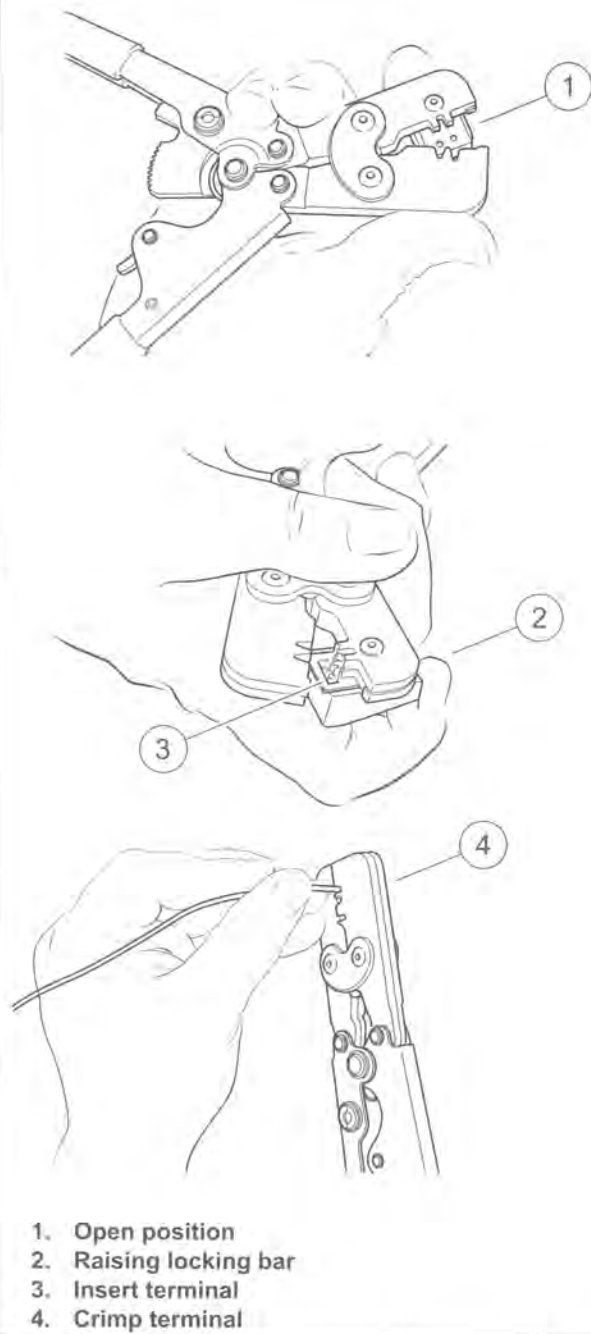

Figure A-27. Delphi Micro-64 Sealed Connector: Terminal in Crimper
2. See Figure A-27. Squeeze the handles of the TERMINAL CRIMPER (Part No. HD-45929) to cycle the tool to the fully open position (1).
3. Raise locking bar and barrel holder by pushing up on bottom tab with index finger (2).
4. With the crimp tails facing upward, insert terminal through locking bar into front hole in barrel holder (20-22 gauge wire) (3).
7. Squeeze handle of crimp tool until tightly closed (4). Tool automatically opens when the crimping sequence is complete.